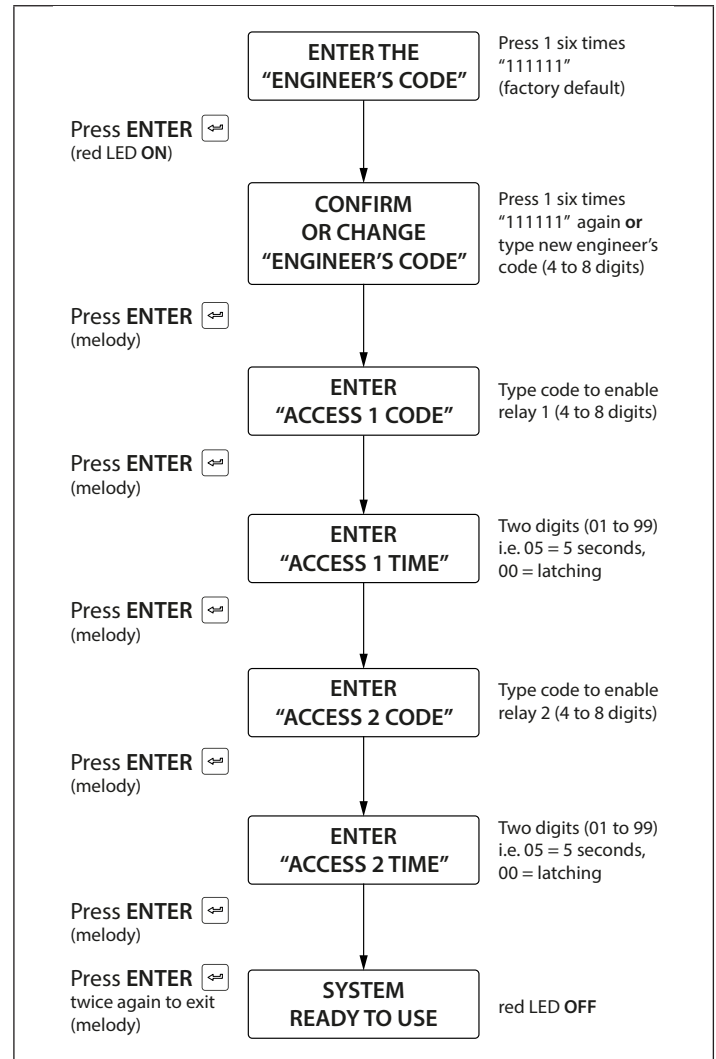

Fig. 14
2. Short out terminals - and SW2, see **Fig.14**, page 16;
1. First disconnect the power from the Art.4903 keypad, then short out terminals - and SW2 (**Fig.14**, page 16);
2. Short out terminals - and SW2, see **Fig.14**;